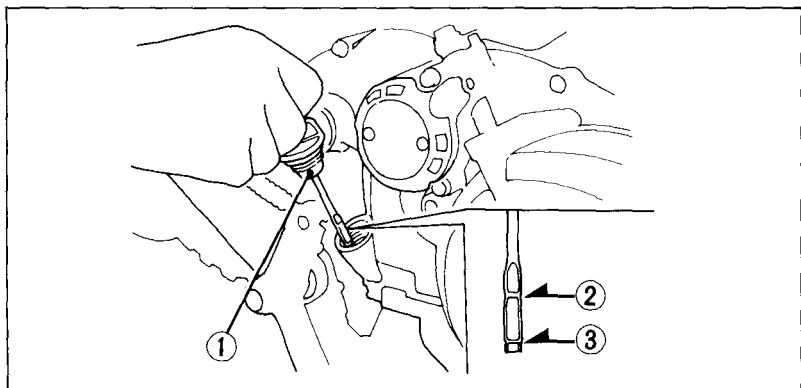

Fig. 2-19
The oil filler cap/dipstick (Fig. 2-19), on the right crankcase cover, is used to measure the oil level. The oil should be checked each day before operating the FOURTRAX and maintained between the upper level mark (2) and the lower level mark (3).